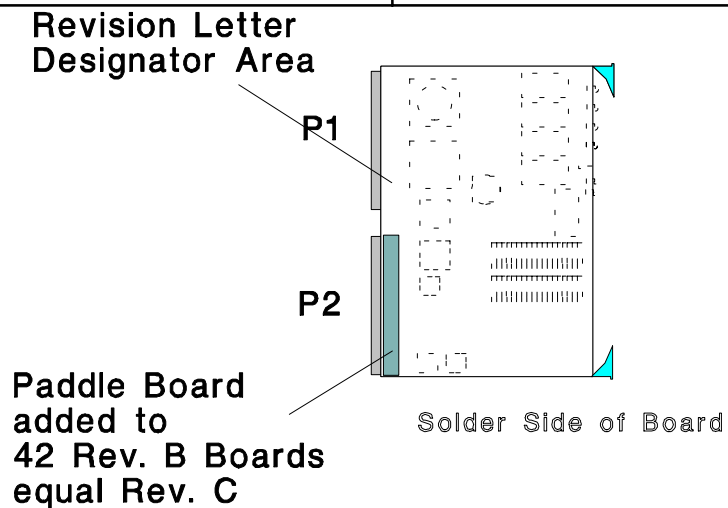

FIGURE 1
3. Examine the solder side of the board and look at the REV. level on the board (It should have 42B or 42A located next to P1 - Refer to Figure 1).